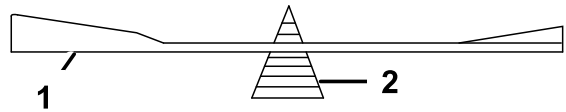

**Figure 54**
1. Use a file to sharpen the cutting edge at both ends of the blade (Figure 54).
**Note:** If the blade is not balanced, file some metal off the end of the sail area only (Figure 54).